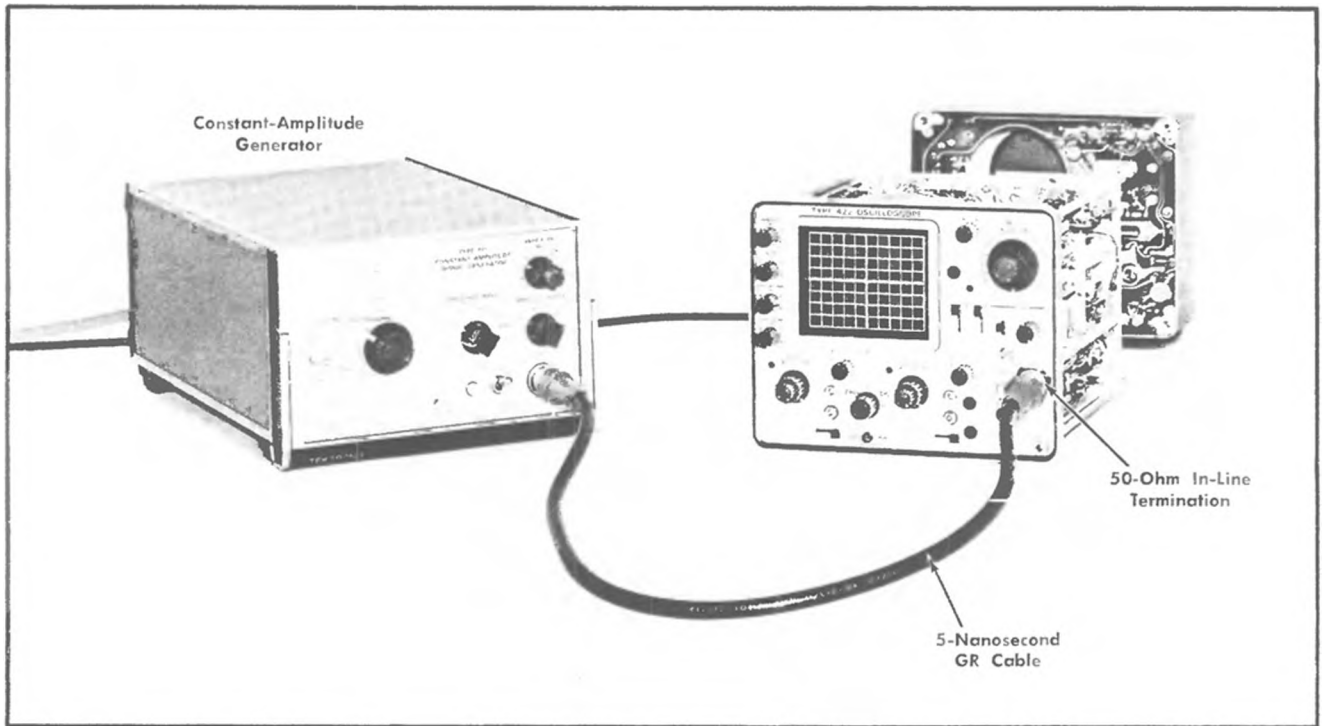

Fig. 6-54. Initial test equipment setup for steps 50 and 51.
- Test equipment setup is shown in Fig. 6-54.